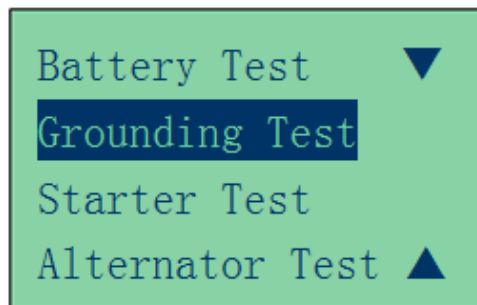

Figure 24
4. Pressing  key once will scroll down to the 'Grounding Test' (Fig.24)
13. To exit the program, pressing the  key at any moment will exit and return back to the main menu screen (Fig.24).